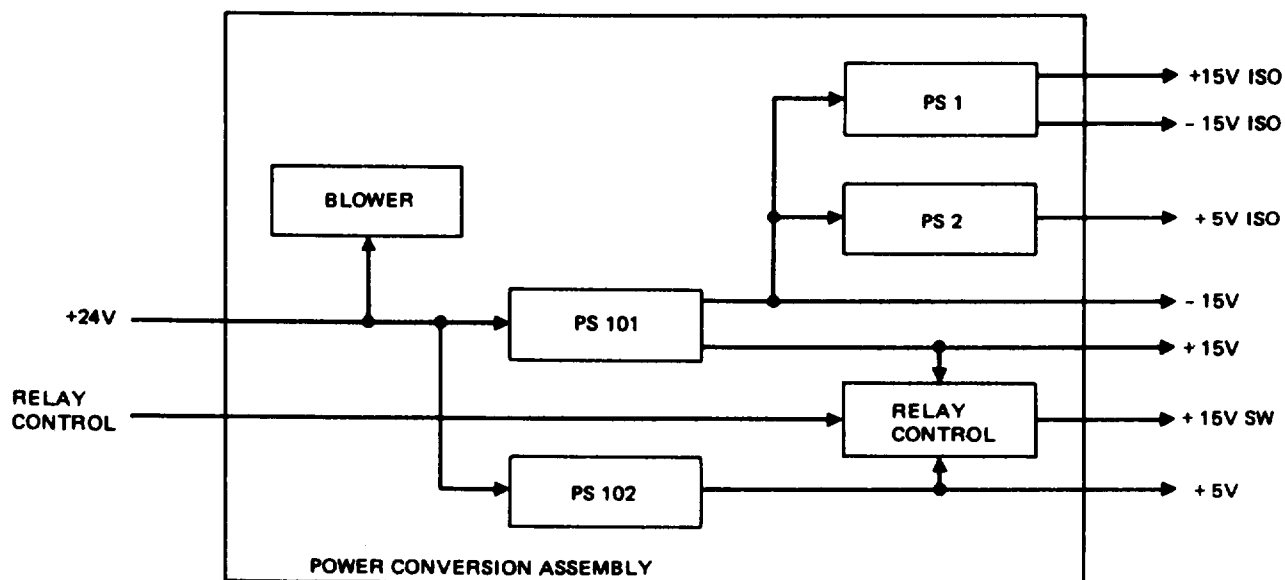

Figure 1-11. Power Conversion Assembly Block Diagram.
(1) *Power conversion assembly.* The power conversion assembly (figure 1-11 ) receives +24 volts from the turret through the POWER switch. When the POWER switch is ON, this +24 volts drives two power supply modules and a cooling blower. Power supply module PS 101 produces  $\pm 15$  volts and PS 102 produces + 5 volts to power the TC internal circuitry. Isolated  $\pm 15$  and + 5 volts outputs are provided to the DVM card (A9) by two power converters, PS1 and PS2. The power conversion assembly also includes a relay driver circuit that supplies + 15 volt coil voltage for the switching relays on cards A 1 through A 11.